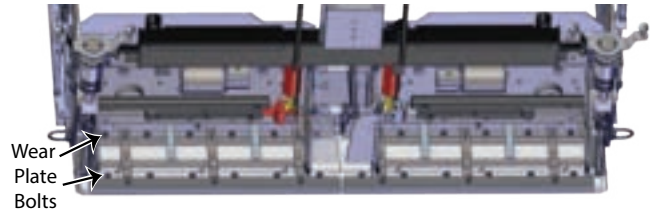

Figure 5-41. Wear Plate Bolts
6. Remove both rows of bolts holding the wear plate to the bottom of the screed. **(Figure 5-41)**